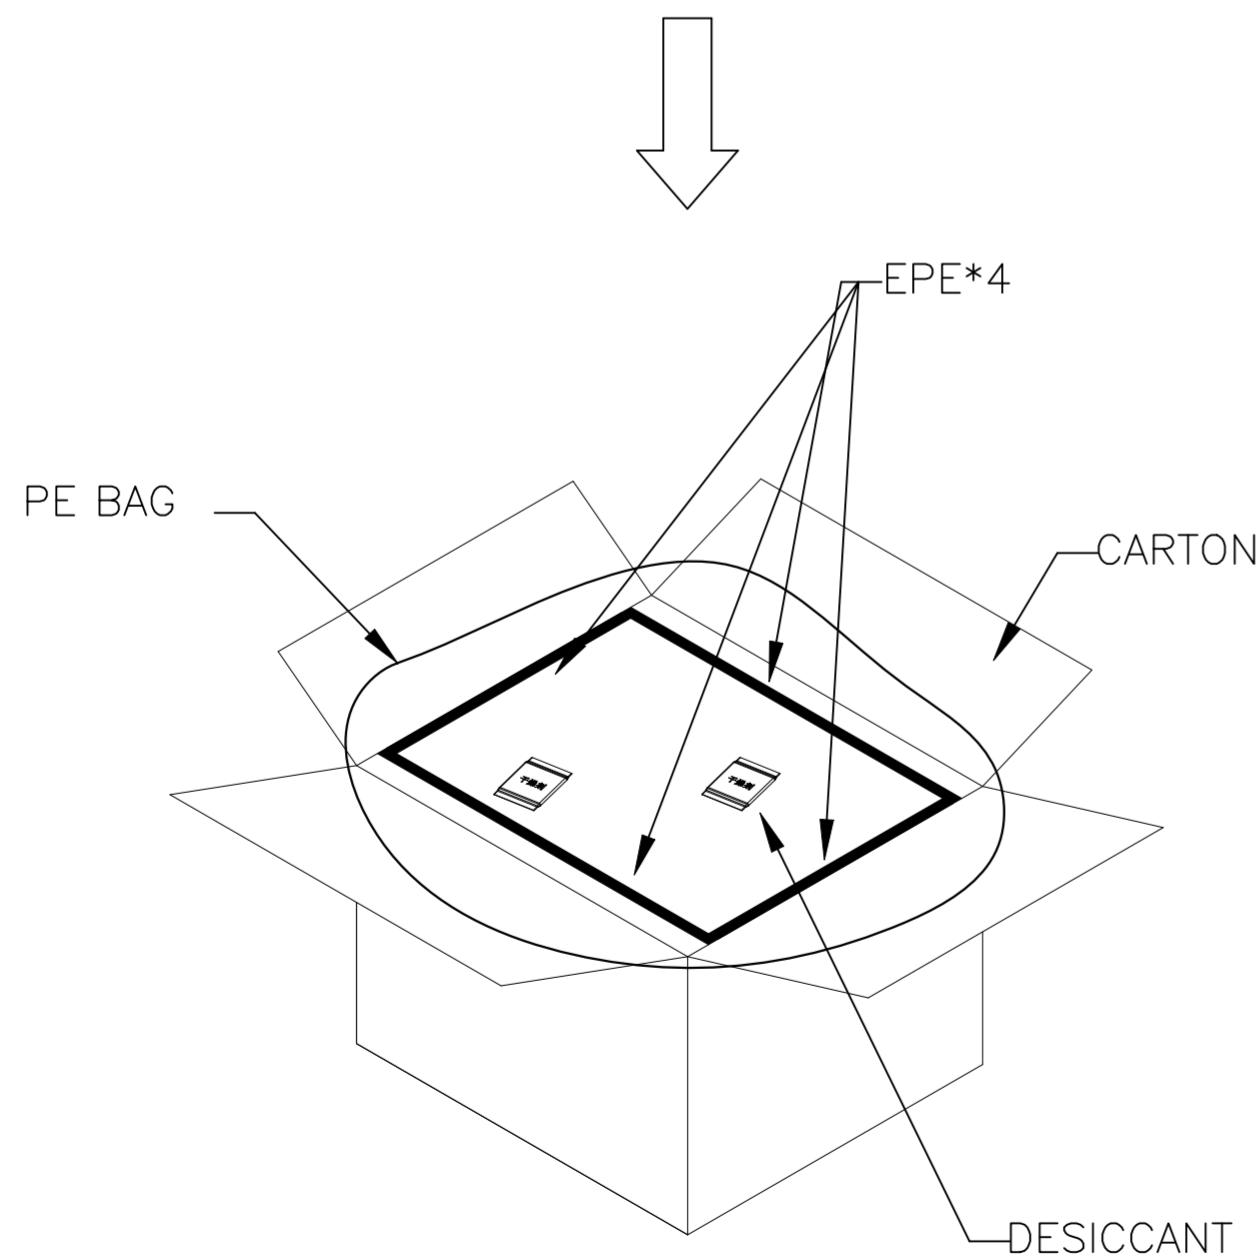

FIGURE 3
4. PLACE ONE PEARL AT THE BOTTOM OF THE BOX, AND ONE PEARL COTTON ON EACH SIDE OF THE INNER BOX. WRAP THE PRODUCT IN THE THIRD STEP AND PUT IT IN A PE BAG, THEN PLACE A DESICCANT INSIDE. PUT IT INTO A CARDBOARD BOX AND SEAL THE PE BAG WITH ADHESIVE TAPE (WITH THE BOTTOM OF THE TRAY FACING DOWNWARDS). PLACE A PIECE OF PEARL COTTON ON TOP OF IT; (AS SHOWN IN FIGURE 3)